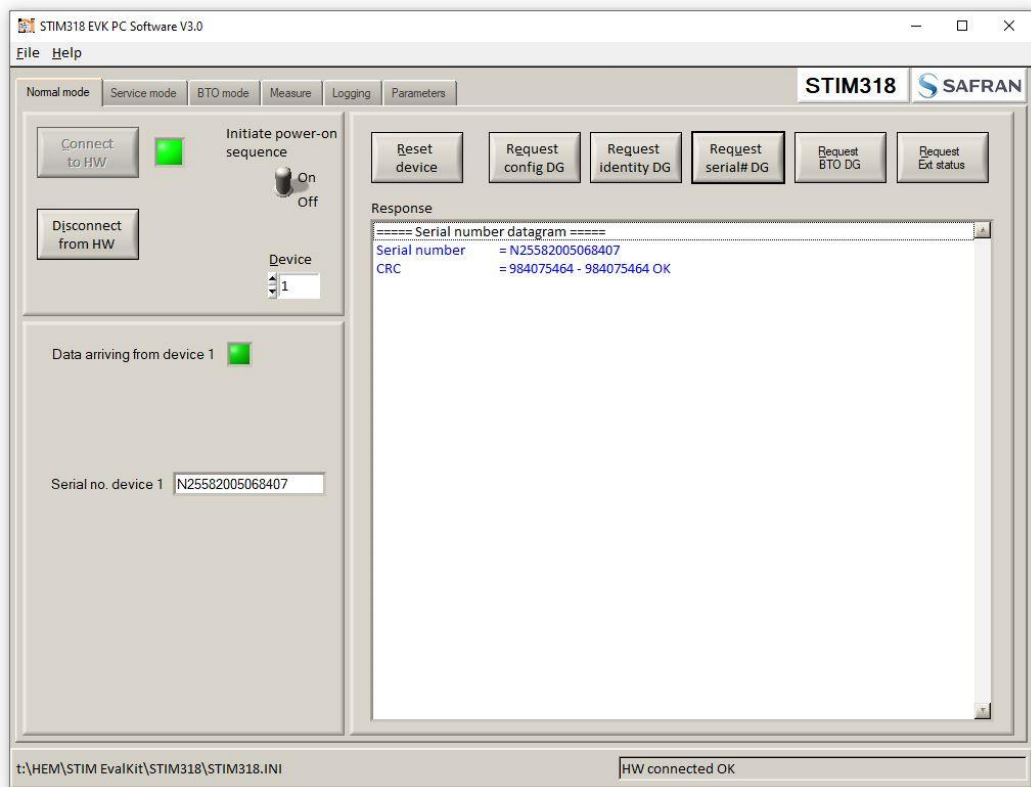

Figure 25: Example of 'Request serial# DG' response
10. A green LED (Data arriving from device n) indicates that data is received from the IMU(s). Verify the communication to module by clicking on the 'Request serial# DG' button. An example of such a result is shown in Figure 25. The system is now ready for use.